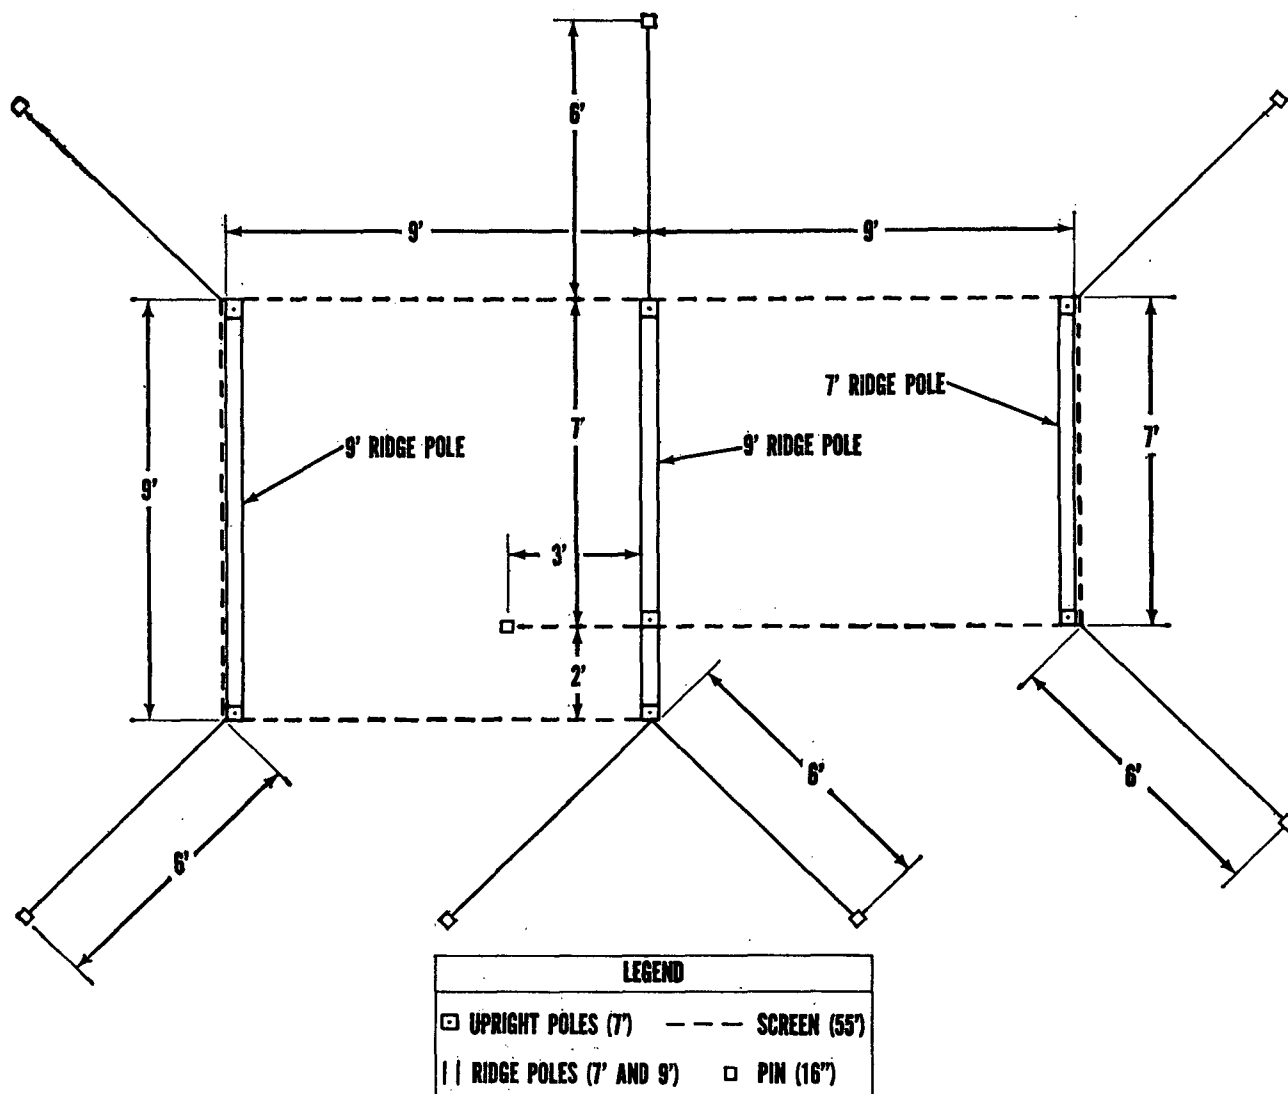

Figure 97. Ground plan of screen, latrine.
c. Ground Plan. Before pitching screen, study the ground plan carefully (fig 97).